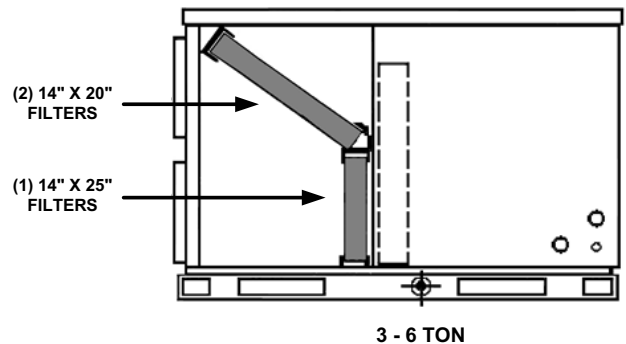

Figure 1 - End view less filter access panel 3 thru 6 ton
1. Remove the filter access panel located to the left of the condensate drain connection. See Figure 1.